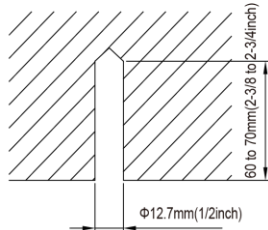

Fig. 4.3
- (1). Install the bolts to the ceiling at a place strong enough to hang the unit. Mark the bolt positions from the installation template. With a concrete drill, drill for 12.7 mm (1/2") diameter holes. (Fig. 4.3)